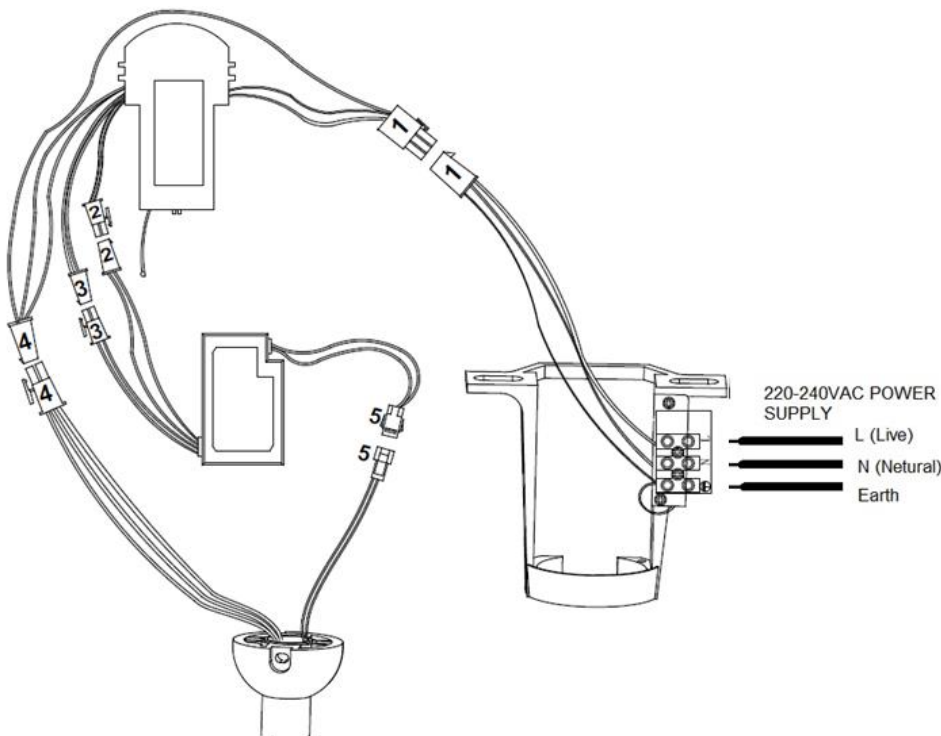

Fig. 5
- Refer to the wiring diagram provided for Electrical Connection/installation. Fig. 5
- After completing the electrical wiring at the mounting bracket terminal and connecting the remote receiver power input wires and fixed wiring via the 4-ports quick connectors (1); connect the LED driver power input wires and remote receiver power output wires via the 2-ports quick connectors (2); connect the LED driver PWM signal input wires and remote receiver PWM signal output wires via the 2-ports quick connectors (3); connect the remote receiver fan output and motor input wires via the 4-ports quick connectors (4); also connect the LED driver output wires and LED light wires via the 2-ports quick connectors (5). **Fig. 5**